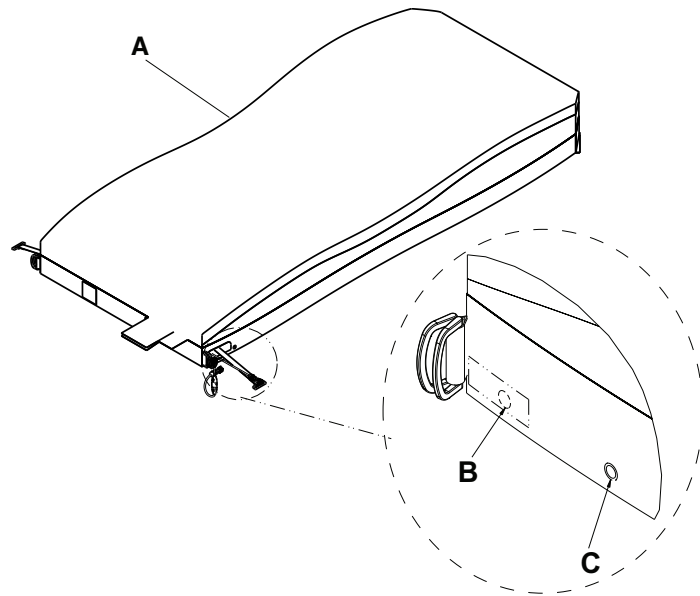

Figure 18 – Top cover
5. Unsnap the two secure snaps (C) at the foot end corners (Figure 18).
6. Unsnap the two foot end corner retainers (B).
8. Using the zipper pull tool or equivalent, unzip the support surface top cover from the bottom cover (A) (Figure 18) and stop unzipping at the middle of the opposite side.